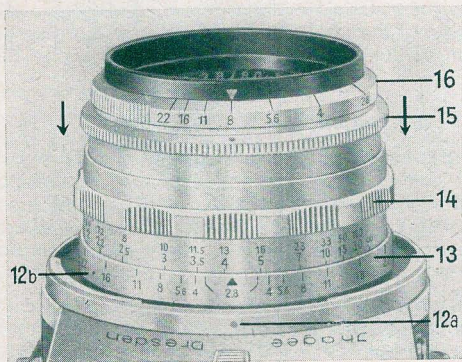

Fig. 6
The lens (17) is interchangeable: Push the knob (18) in the direction of the camera back, turn the lens to the left (looking at the camera front) until the red dots 12a and 12b (Fig. 6) stand against each other. Lift the lens off the camera front. — When installing the lens, first place it on the camera so as to make the red dots meet and then turn it to the right until it clicks in.
Lenses with diaphragm pre-setting device have an adjustable stop ring for the diaphragm ring. On most lenses, the pre-setting ring (15) behind the diaphragm scale has to be pushed back towards the camera (Fig. 6), whereupon the diaphragm ring (16) must be rotated until the aperture (= diaphragm number) with which the exposure is to be made, stands against the red marking dot. Now let the pre-setting ring (15) spring back into its original position. Focusing can be performed with the lens at full aperture and, immediately before releasing the shutter, without changing the position of the camera, the diaphragm ring (16) is turned back to the "pre-set stop". — With other lenses, there may be slight deviations concerning the employment of the "diaphragm pre-setting device".